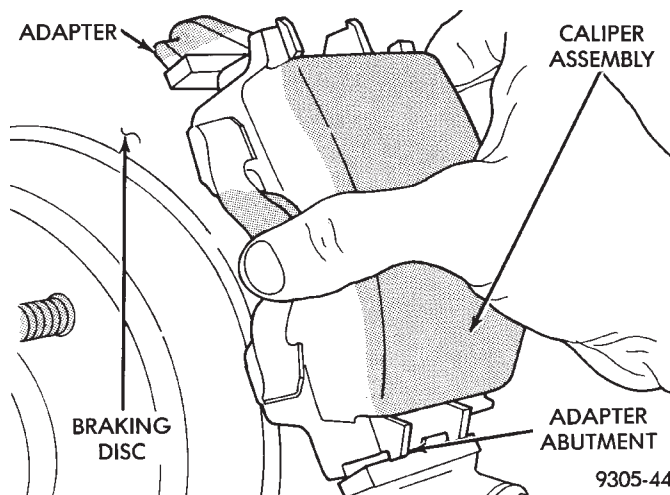

Fig. 2 Removing Caliper Assembly From Adapter And Rotor
(4) Remove caliper assembly from adapter and braking disc, by first rotating top of caliper assembly away from adapter. Then lift caliper assembly off bottom machined abutment on adapter and lift caliper away from adapter and braking disc (Fig. 2).